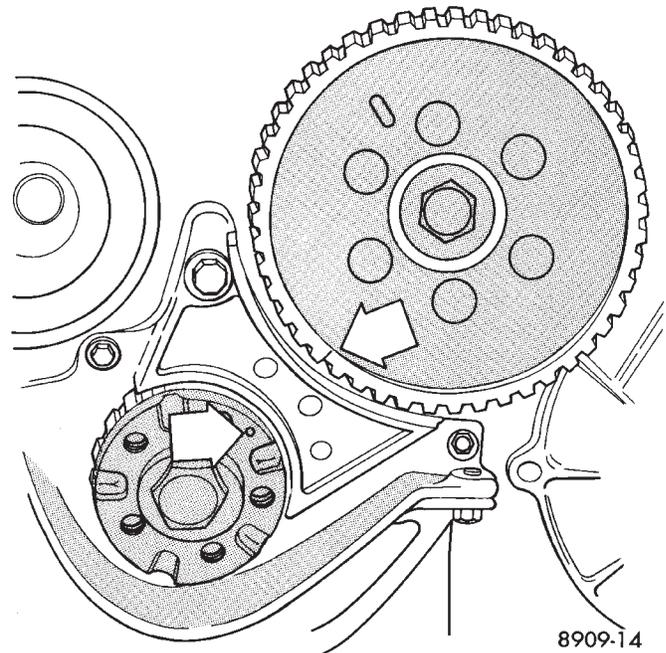

Fig. 6 Crankshaft and Intermediate Shaft Timing
- (3) Turn crankshaft and intermediate shaft until markings on sprockets are in line (arrows Fig. 6).
- (4) Slot in oil pump shaft **must** be parallel to cen-